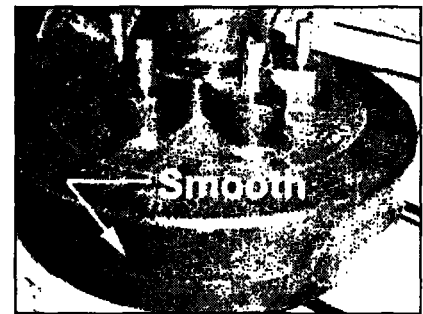
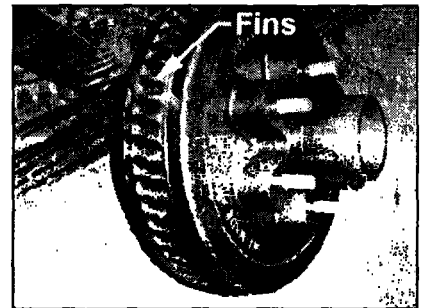

Figure 1
Figure 2
2. Examine the outside perimeter of the brake drum. If the brake drum has a smooth perimeter, as shown in Figure 1, no further action is necessary. If the brake drum has fins as shown in Figure 2, proceed with the next step.